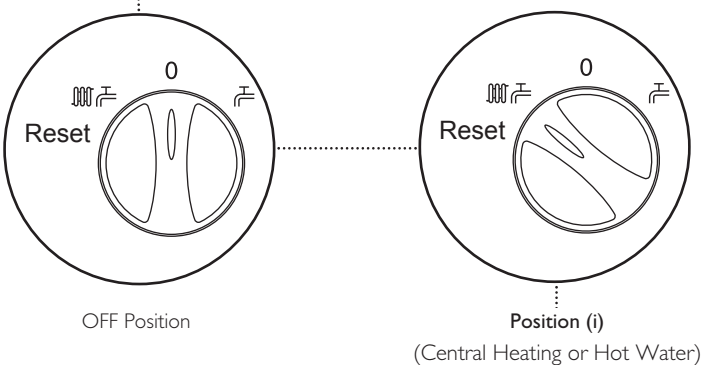

Fig. 6
2. Turn the On/Off/Reset selector switch either anti-clockwise from the off position (Fig. 6) to both central heating and domestic hot water or clockwise to domestic hot water only.